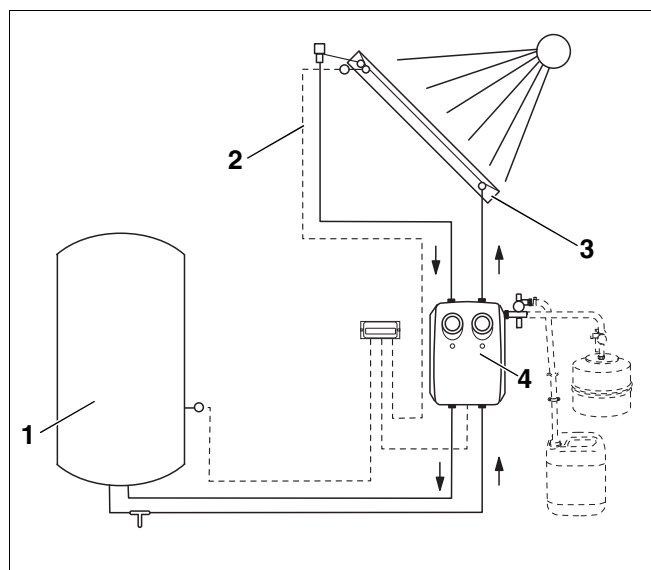

Fig. 3 Solar heating system pipework
The collectors (Fig. 3, **Item 3**), the solar pump station (Fig. 3, **Item 4**) and the solar cylinder (Fig. 3, **Item 1**) are interconnected using suitable pipework.
- While the pipework is being installed you should extend the collector sensor lead (Fig. 3, **Item 2**) as far as the solar pump station (control). Make sure that the cross-section of the lead conforms to the specifications in the controller instructions.